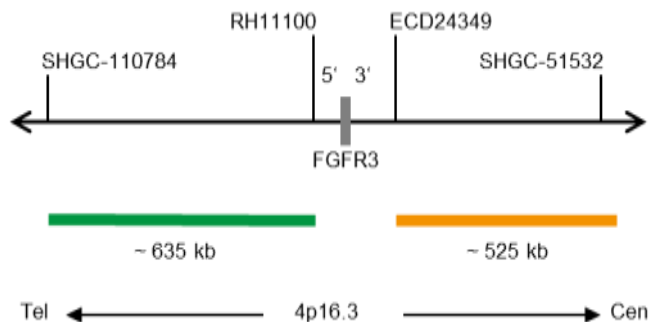

Fig. 1: SPEC FGFR3 probe map (not to scale)
- ZyGreen (excitation 503 nm/emission 528 nm) labeled polynucleotides (~10.0 ng/μl), which target sequences mapping in 4p16.3* (chr4:1,093,149-1,729,455) distal to the FGFR3 breakpoint region (see Fig. 1).
- ZyOrange (excitation 547 nm/emission 572 nm) labeled polynucleotides (~4.5 ng/μl), which target sequences mapping in 4p16.3* (chr4:1,922,997-2,446,931) proximal to the FGFR3 breakpoint region (see Fig. 1).